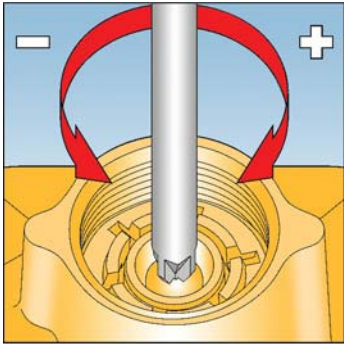

Fig. 7
8. If UPSS fitted, insert a pozidriv screw driver (No.2 point) into UPSS adjusting screw in bottom spring holder. See Fig. 7.
23. Slowly turn UPSS adjusting screw clockwise (+) until UPSS device trips off. See Fig. 7.